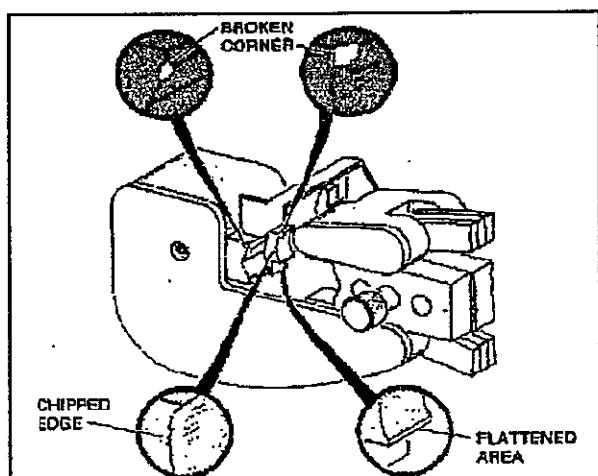

Fig 7
- Inspect the die closure surfaces for flattened, pitted or chipped conditions. Although dies may gauge within permissible limit, worn or damaged die closure surfaces are objectionable and can affect crimp quality. Examples of possible damage to die closure surfaces are shown in Figure 7.